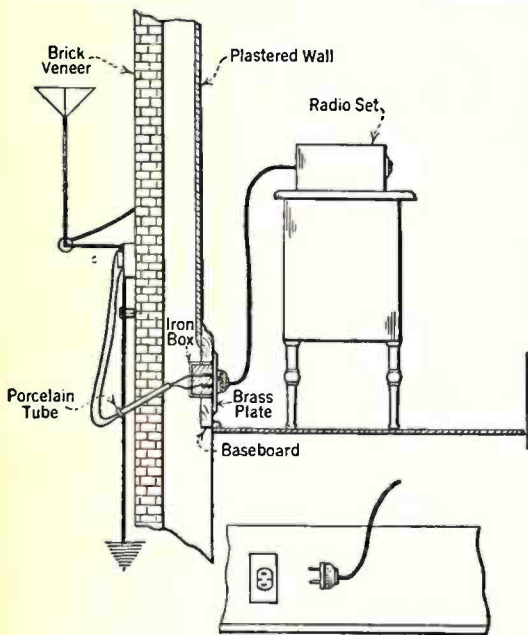

Fig. 4—A neat method for bringing antenna and ground wires in the house
*Antenno-Ground, connections:* While there are several devices made for the purpose of bringing the antenna and ground wires into the house, the use of an ordinary convenience receptacle makes a neat job and one which is uniform with other receptacles and wiring in the house. I have found that the owners of higher-priced sets prefer this manner of entrance rather than the use of window strips and manufactured receptacles. A porcelain tube is used through the brickwork to insulate the antenna lead-in. The wires are then pulled through the knock-out in the rear of the receptacle and the ends clamped under the screws inside the box. A length of double-conductor and receptacle plug then connects the set to the outlet. Be sure to cut the hole in the baseboard to fit the box and not the outlet plate. Fig. 4 shows this method.